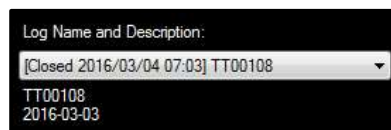

Figure 5.4-3: Example of a Closed Log
4. The name of the Log file will change to "Closed" along with the date and time at which it was closed (Figure 5.4-3).